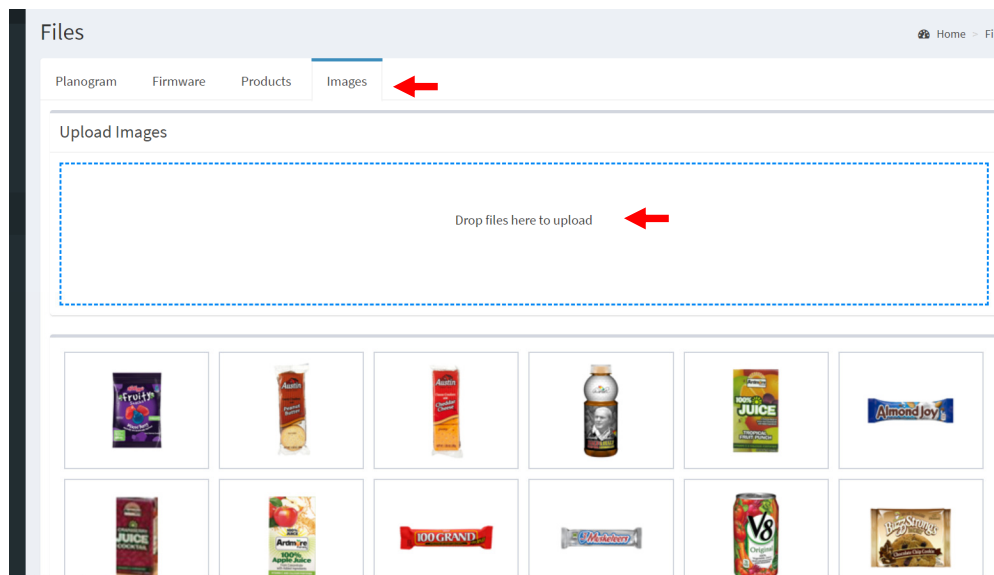

Figure 23
- Select the **Images** tab (*figure23*).